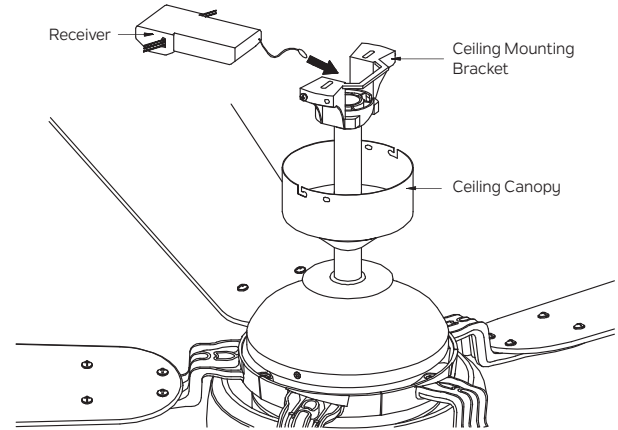

Fig. 15
Step 1. Once the connection has been made, the receiver inserts into the drop rod hanging bracket. The canopy comes up to cover the receiver and bracket. (Fig. 15)